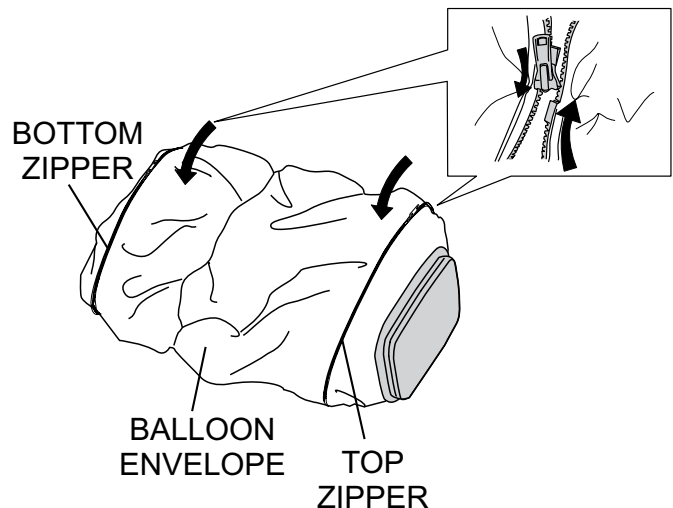

Figure 27. Zipping the Balloon Envelope
4. Zip up the zipper (Figure 27) at the top and bottom of the balloon envelope (cover).